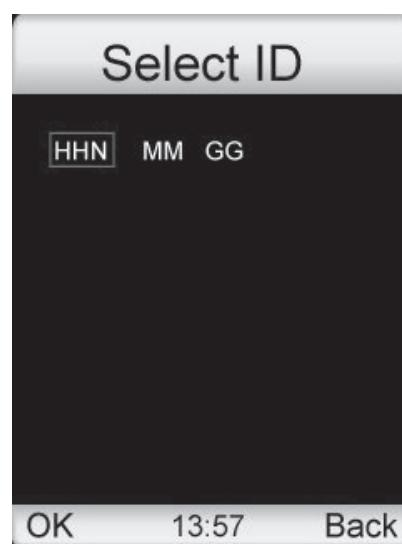

Figure 10. Select ID interface
- Move the choice bar to the "Memory Manager" item,then press the "right button" to enter"Select ID" interface as Figure 10.Select the patient ID that you want to delete,then press menu button to delete the patient ID and storage data.